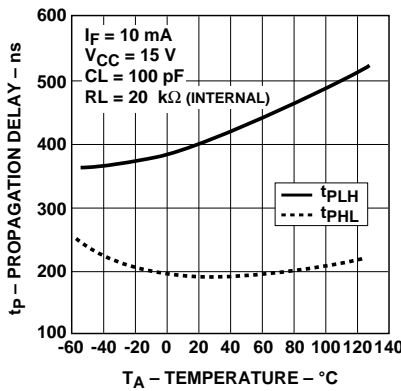

Figure 8. Propagation Delay with Internal 20 kΩ RL vs. Temperature.
- Due to the tolerance of the internal resistor, and since propagation delay is dependent on the load resistor value, performance can be improved by using an external 20 k Ω 1% load resistor. For more information on how propagation delay varies with load resistance, see Figure 8.